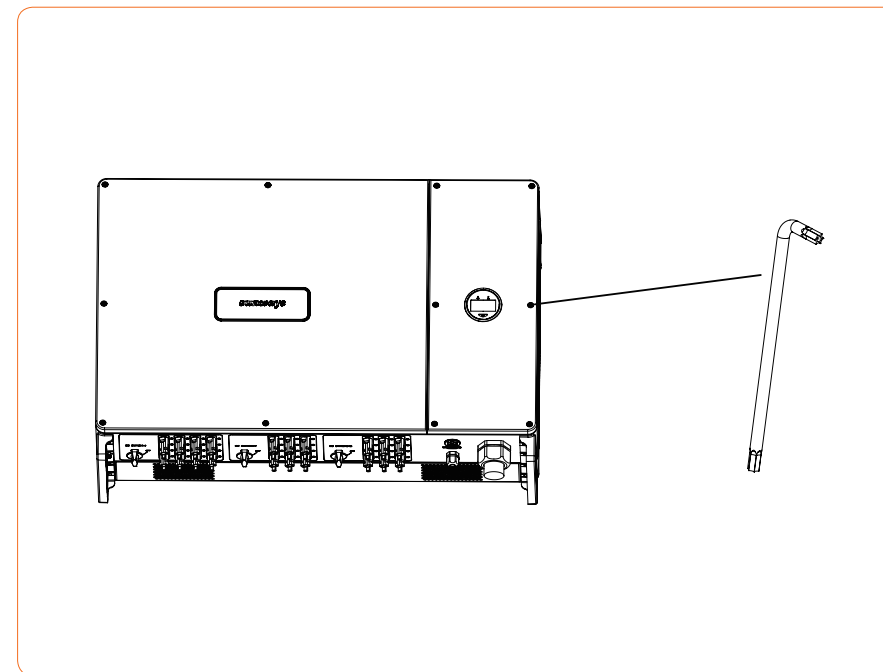

Figure 4-20
④ Insert the flat cable of the display back to its place and put back the right roof cover and lock with its original screws. As shown in Figure 4-20: